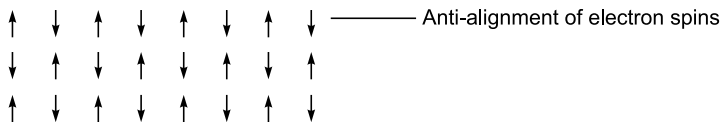

Fig. 4.9 Electronic Spin alignment of antiferromagnetic materials
5. Antiferromagnetic materials: Unlike a ferromagnetic materials, an antiferromagnetic materials having a tendency for the intrinsic magnetic moments of neighboring valence electrons to point in *opposite* directions (Figure 4.9). When all atoms are arranged in a substance in the same manner so that each neighbor is anti-aligned, the substance becomes an antiferromagnetic property. Antiferromagnetic materials show a zero resultant magnetic moment, meaning that there is no magnetic field is produced by them. In the periodic table, Chromium is only element exhibiting antiferromagnetism at room temperature.